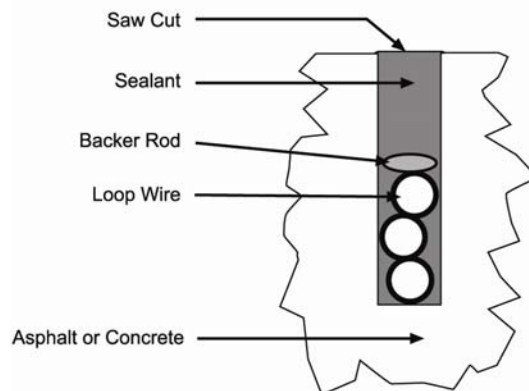

FIGURE: 6.3
7. When properly applied, the sealant should completely cover the loop wire(s) and backer rod. Since the sealant forms a barrier between the wire and the environment, it is essential that the wire(s) are completely covered. See the below diagram for the proper end result. (see figure 6.3)